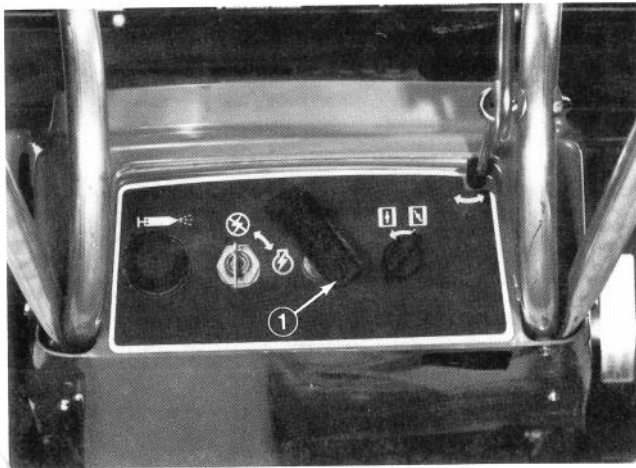

Figure 5
1. Primer (Fig. 5) — Push primer to pump a small amount of fuel into the carburetor, which allows the engine to be started easier in cold temperatures. **DO NOT USE PRIMER WHEN ENGINE IS HOT.**
2. Choke (Fig. 5) — Rotate choke clockwise to start engine. Because air intake into carburetor is restricted, engine receives a rich fuel mixture for easy starting.
3. Ignition Switch (Fig. 5) — Switch has ON and OFF position. Rotate key to ON to open the switch; then engine can be started by pulling recoil starter. Rotate key to OFF to stop the engine.
4. Recoil Starter (Fig. 5) — Pull recoil starter to start the engine.
5. Vane Direction Control (Fig. 5) — Rotate vane control to direct discharge of snow to either side or straight forward.